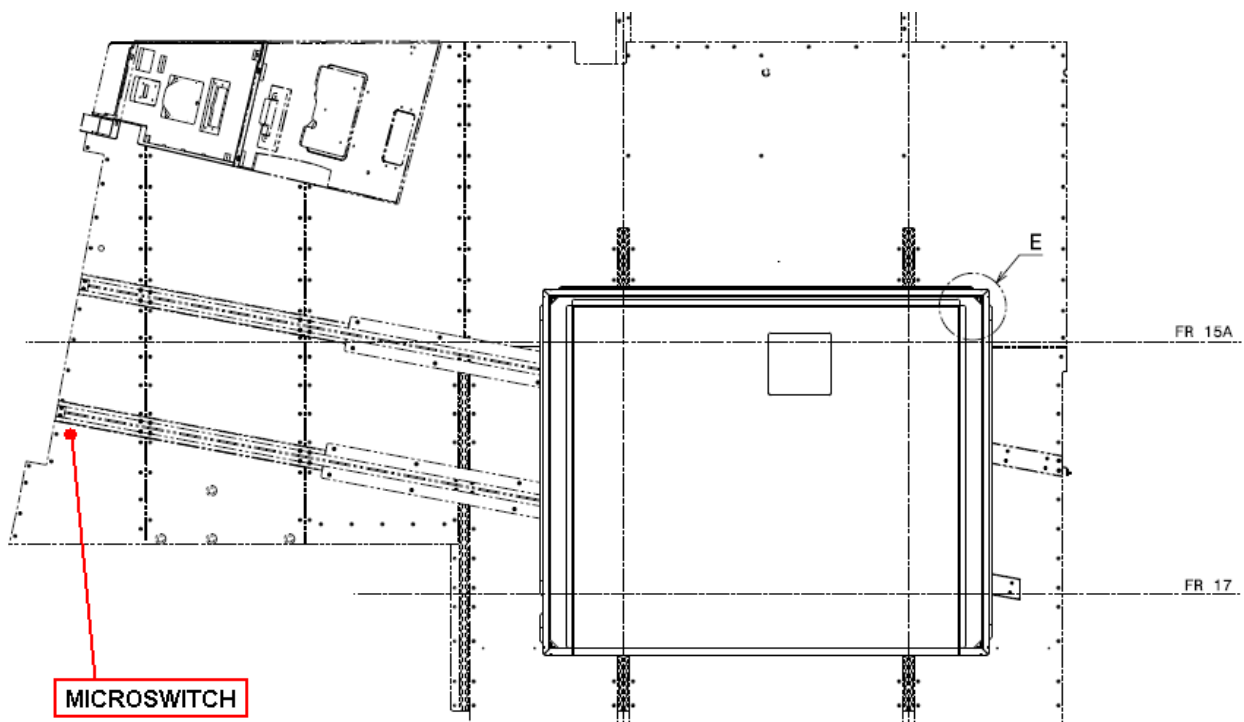

Figure 4: Microswitch hole location
18. Press the microswitch located in the aftmost hole in the doorsill (by means of a screwdriver, for example) (see fig. 4)
- 1.8 Depress arm to raise locking latch pins from locking block mounted on the floor preventing Airstair from moving. Access to latches is gained through two access doors on the inboard wall of the closet. (Figure 4)
- 1.10 Engage two (2) latch pins through floor by pushing down with foot. The aftmost latch (in flight direction) will actuate a microswitch (see fig. 4). "READY" light will come on.